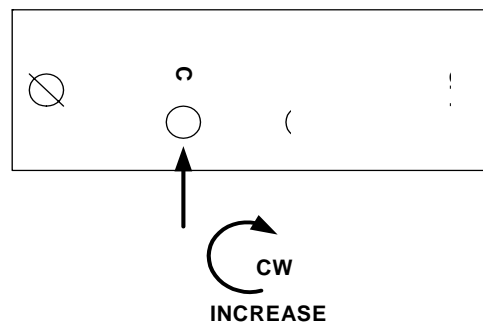

Figure 1-14. Carrier Channel Adjustment
- f. **Carrier Channel Adjustment** (refer to Figure 1-14).